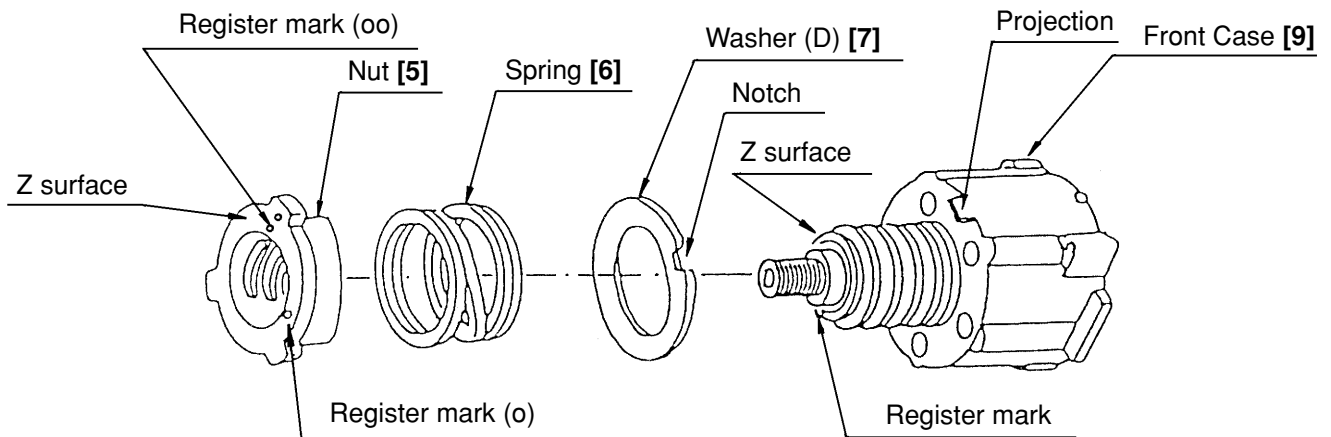

Fig. 8
(2) Reassembly of the clutch unit
(a) Mount Washer (D) [7] and the Spring [6] to the Front Case [9]. (See Fig. 8.) **Fig. 7**